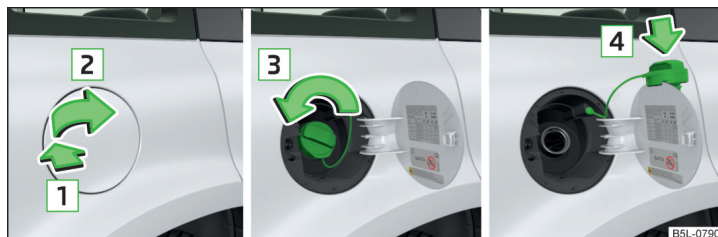

Fig. 163 Open fuel filler flap / unscrew tank cap / place the tank cap on the fuel filler flap
The correct fuel grades for your vehicle are specified on the inside of the fuel filler flap » Fig. 163 on page 160.
- Press on the fuel filler flap in the direction of the arrow 1 accordingly » Fig. 163.
- » Fig. 163.